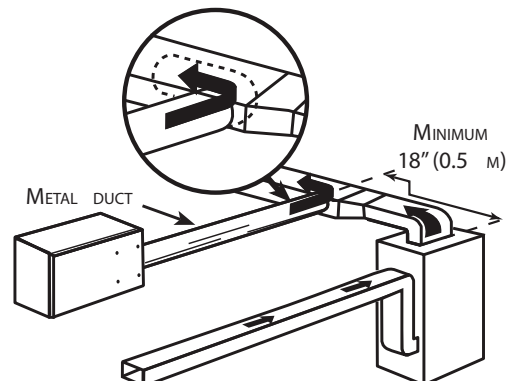

Fig. 10 – Supply Side Connection
- Connect this opening to the fresh air distribution port of the HRV/ERV (use metal duct). See Fig. 10.